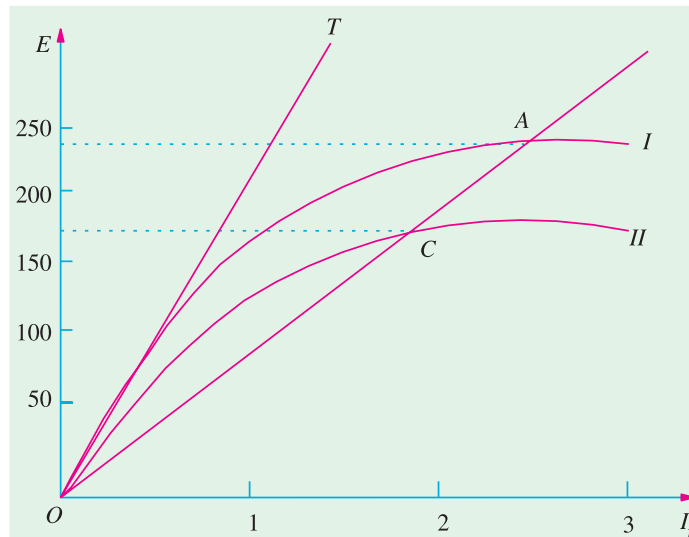

Fig. 28.9
**Solution.** The magnetisation curve at 1500 r.p.m. is plotted in Fig. 28.9 from the given data. The  $100 \Omega$  resistance line  $OA$  is obtained by joining the origin (0, 0) with the point (1A, 100 V). The voltage corresponding to point A is 227.5 V. Hence, no-load voltage to which the generator will build-up is 227.5 V.
The new magnetisation curve is also plotted in Fig. 28.9. The  $100 \Omega$  line cuts the curve at point C which corresponds to an induced voltage of 166 V.